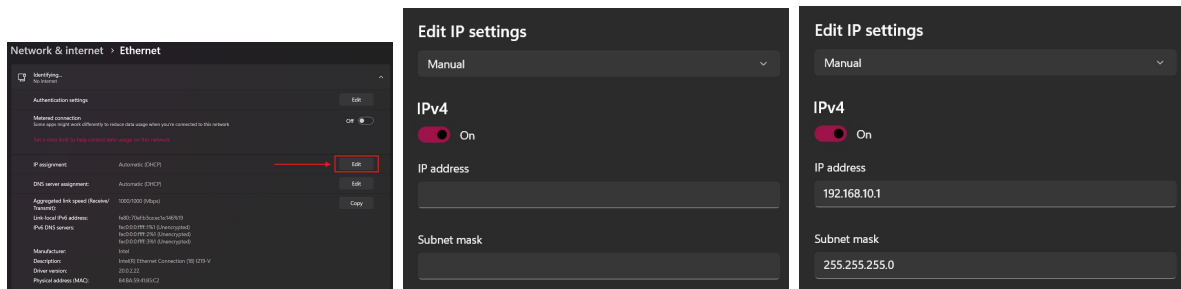

Figure 8: Setting up PC's Ethernet IP address
- Set up your PC's Ethernet settings as shown in Figure 8.